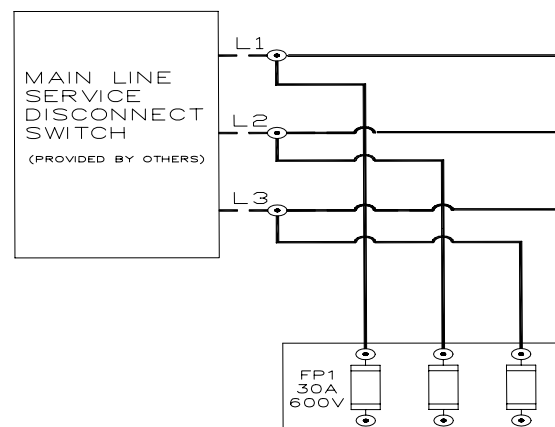

Figure 5-4
- 3) The third circuit is a separate fused circuit from the primary side of the power transformer terminals L1 and L2 to the FP1 fuse block on the drive side of the controller. [See Figure 5-4.]